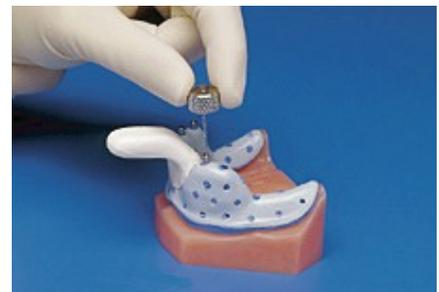

Figure 4
8. **When impression material is set, loosen the guide pin with the proper sized driver (Fig. 4).**